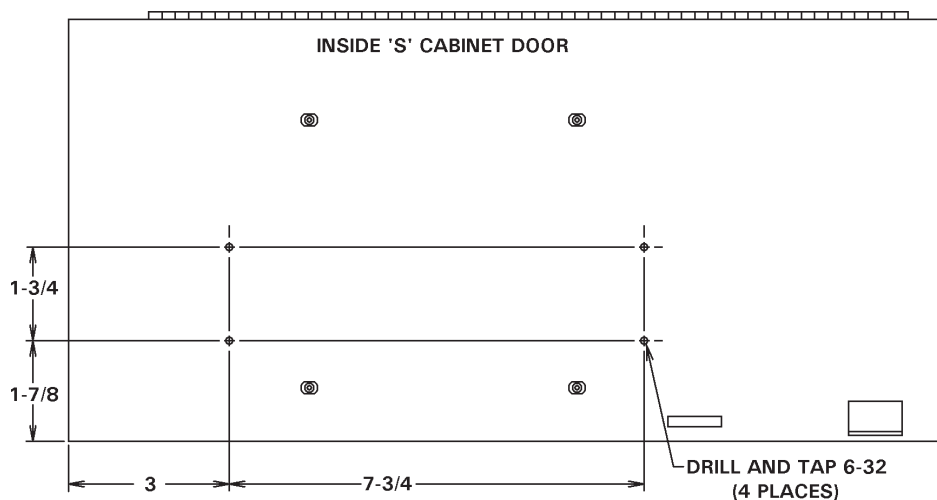

Figure C-3. Mounting detail for “S” Cabinet
2. Drill and tap door of cabinet as indicated in Figure C-3. Install the standoffs by using four (4) 6-32 x 3/8 Screws from the outside of the door, 6-32 x 1/2 standoffs on inside of the door.
3. Mount the S49 Option PCB (A/N 410329-004) to the standoffs with the J4 connector towards the rear panel of the cabinet, using four (4) 6-32 x 1/4 PHSMS, Phil, Brite.